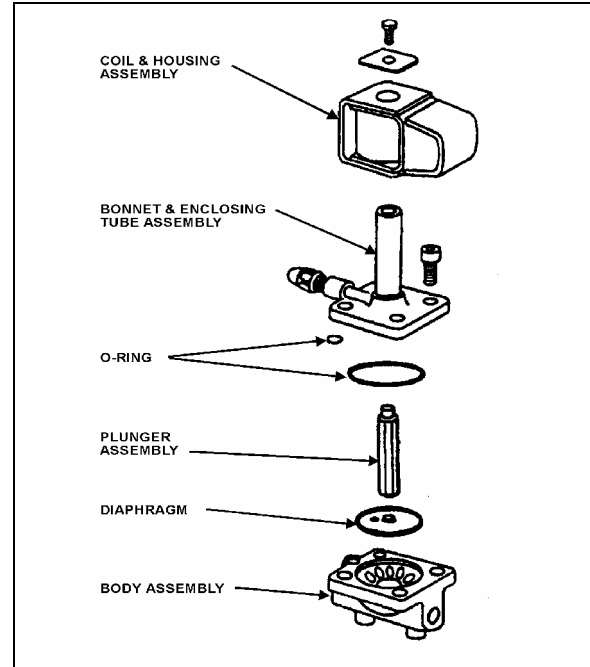

FIGURE 30: REFRIGERANT SOLENOID VALVE 22044
3. Remove the four socket head screws which hold the body and bonnet together (Fig. 30).